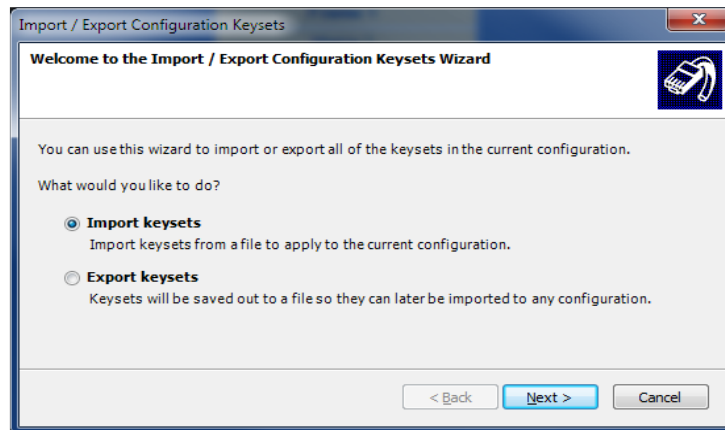

Figure 4-3 Import and Export Configuration Keysets Dialog
- 2) The welcome screen of the wizard is displayed. Select **Export keysets** (see Figure 4-3).